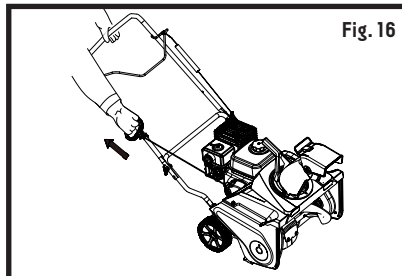

Fig. 16
1. Pull the recoil start handle out approximately 4" to 6" (10 to 15 cm) until you feel a resistance and then start the engine with a sharp pull (Fig. 16)
2. Once the engine is running, put the starter rope into the rope guide (see Fig. 16). While the engine is running, move the choke lever gradually to the "RUN" position;